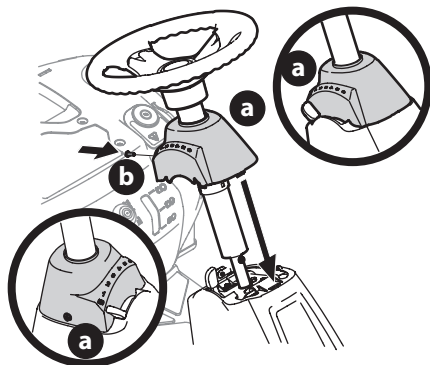

Figure 5
7. Slide the pedestal cap (a) down onto the riding mower and slightly rotate to the right to clip into place. Secure the pedestal cap (a) with the screw (b) previously removed (Figure 5).